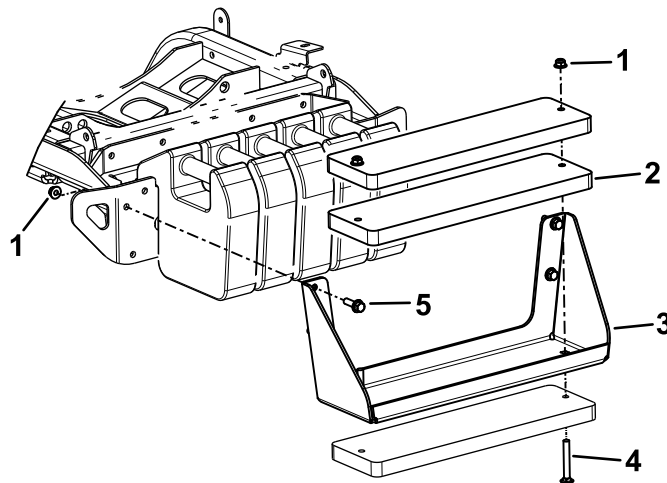

Figure 19
Note: Refer to Figure 19 for these steps.
- A. Use the bolts (3/8 x 4 inches) and nuts (3/8 inch) to secure the 3 weights to the bracket (Figure 19).
- B. Use the hex-head bolts and nuts (included in the kit) to secure the weight bracket to the machine (Figure 19).
- A. Remove the weight bracket from the machine (Figure 19).
- C. Use the bolts (3/8 x 4 inches) and nuts (3/8 inch) to secure the 3 weights to the bracket (Figure 19).
- D. Use the previously removed hardware to secure the weight bracket to the machine (Figure 19).